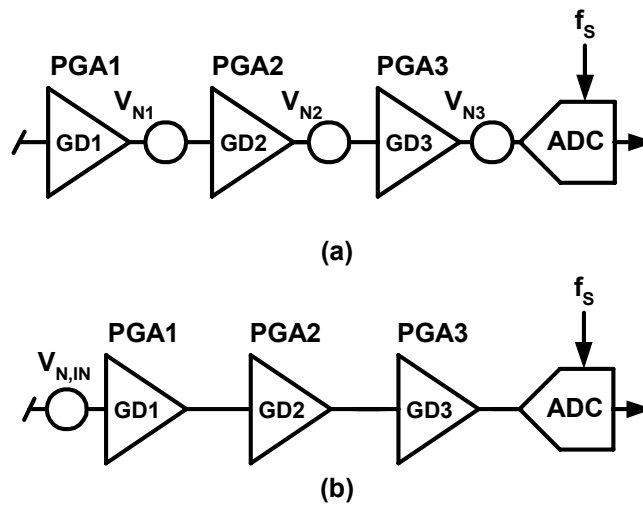
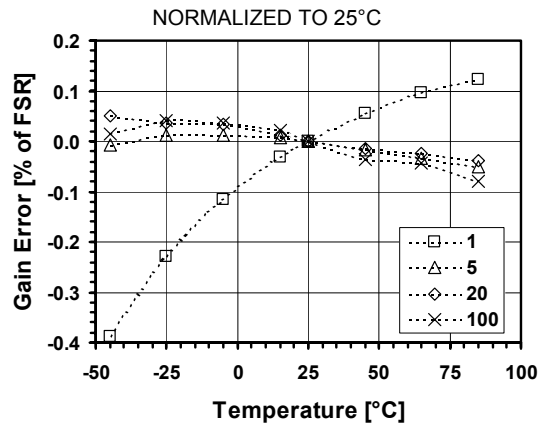

Figure 17-18. (a) Simple noise model for PGAs and ADC and (b) total input referred noise
Figure 17-19. Gain error vs. temperature for different PGA gains
- (1) Gain defined as overall PGA gain $GD_{TOT} = GD_1 \cdot GD_2 \cdot GD_3$. Maximum input voltage is given by: $V_{IN,MAX} = \pm(V_{REF}/2) \cdot (OSR/OSR+1)$.
- (2) Offset due to tolerance on $GDOFF_2$ or $GDOFF_3$ setting. For small intrinsic offset, use only ADC and PGA1.
- (3) Measured with block connected to inputs through AMUX block. Normalized input sampling frequency for input impedance is $f_s = 512kHz$. This figure must be multiplied by 2 for $f_s = 256kHz$, 4 for $f_s = 128kHz$. Input impedance is proportional to $1/f_s$.
- (4) Figure independent from PGA1 gain and sampling frequency f_s . See model of Figure 17-18(a). See equation Eq. 21 to calculate equivalent input noise.
- (5) Figure independent on PGA2 gain and sampling frequency f_s . See model of Figure 17-18(a). See equation Eq. 21 to calculate equivalent input noise.
- (6) Figure independent on PGA3 gain and sampling frequency f_s . See model of Figure 17-18(a) and equation Eq. 21 to calculate equivalent input noise.
- (7) Resolution is given by $n = 2 \cdot \log_2(OSR) + \log_2(N_{ELCONV})$. OSR can be set between 8 and 1024, in powers of 2. N_{ELCONV} can be set to 1, 2, 4 or 8.
- (8) If a ramp signal is applied to the input, all digital codes appear in the resulting ADC output data.
- (9) Gain error is defined as the amount of deviation between the ideal (theoretical) transfer function and the measured transfer function (with the offset error removed). (See Figure 17-19)
- (10) Offset error is defined as the output code error for a zero volt input (ideally, output code = 0). For ± 1 LSB offset, N_{ELCONV} must be ≥ 2 .
- (11) INL defined as the deviation of the DC transfer curve of each individual code from the best-fit straight line. This specification holds over the full scale.
- (12) DNL is defined as the difference (in LSB) between the ideal (1 LSB) and measured code transitions for successive codes.
- (13) Figures for Gains = 1 to 100. PSRR is defined as the amount of change in the ADC output value as the power supply voltage changes.
- (14) Conversion time is given by: $T_{CONV} = (N_{ELCONV} \cdot (OSR + 1) + 1) / f_s$. OSR can be set between 8 and 1024, in powers of 2. N_{ELCONV} can be set to 1, 2, 4 or 8.
- (15) PGAs are reset after each writing operation to registers RegAccCfg1-5. The ADC must be started after a PGA or inputs common-mode stabilisation delay. This is done by writing bit `Start` several cycles after PGA settings modification or channel switching. Delay between PGA start or input channel switching and ADC start should be equivalent to OSR (between 8 and 1024) number of cycles. This delay does not apply to conversions made without the PGAs.
- (16) Nominal (maximum) bias currents in PGAs and ADC, i.e. `IB_AMP_PGA[1:0] = '11'` and `IB_AMP_ADC[1:0] = '11'`.
- (17) Bias currents in PGAs and ADC set to 3/4 of nominal values, i.e. `IB_AMP_PGA[1:0] = '10'`, `IB_AMP_ADC[1:0] = '10'`.
- (18) Bias currents in PGAs and ADC set to 1/2 of nominal values, i.e. `IB_AMP_PGA[1:0] = '01'`, `IB_AMP_ADC[1:0] = '01'`.
- (19) Bias currents in PGAs and ADC set to 1/4 of nominal values, i.e. `IB_AMP_PGA[1:0] = '00'`, `IB_AMP_ADC[1:0] = '00'`.
The simple noise model of Figure 17-18(a) is used to estimate the equivalent input referred rms noise $V_{N,IN}$ of the acquisition chain in the model of Figure 17-18(b). This is given by the relationship:
Note: see noise model of Figure 17-18 and equation Eq. 21.
Figure 17-19 shows gain error drift vs. temperature for different PGA gains. The curves are expressed in % of Full-Scale Range (FSR) normalized to 25°C.